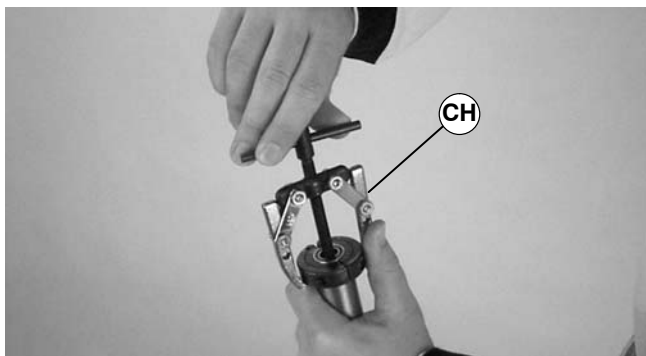

Figure 43
- Using a puller (CH of Figure 43), remove and discard bearing(s).